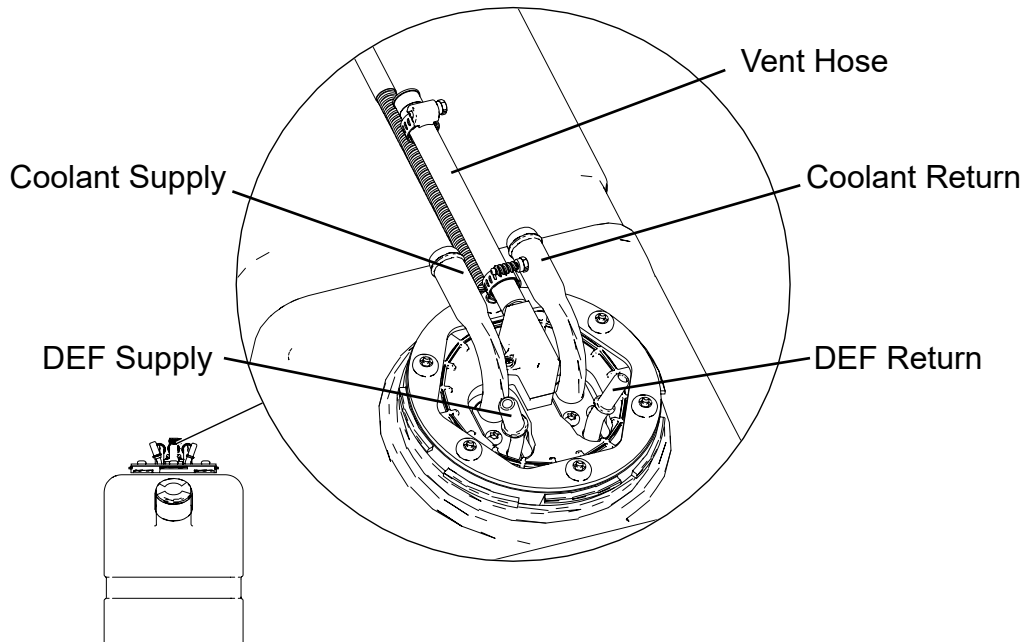

Figure 3
18. Connect DEF and coolant hoses to DEF tank, see Figure 3.
19. Connect vent hose (A000D179) to DEF tank, see Figure 3.